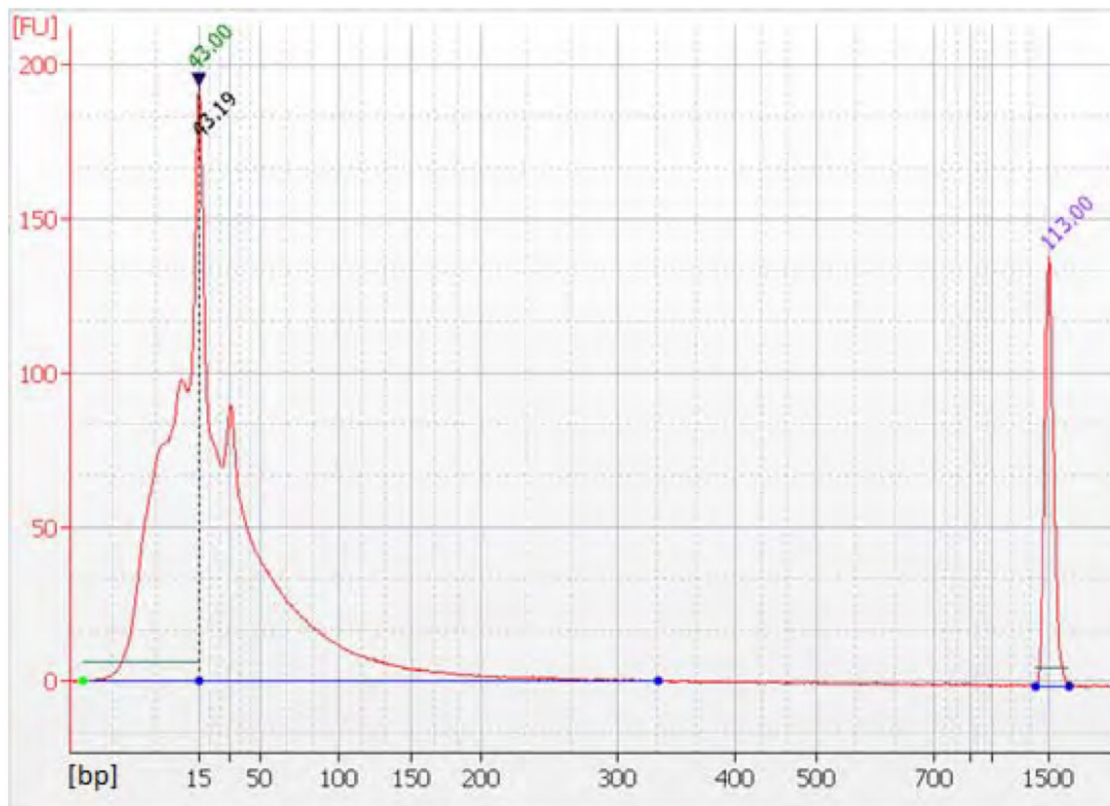

Figure 36 Example of a incorrectly fragmented DNA sample.
3. Evaluate the DNA fragmentation distribution using the sample elution profile shown in the electropherogram (Figure 36).